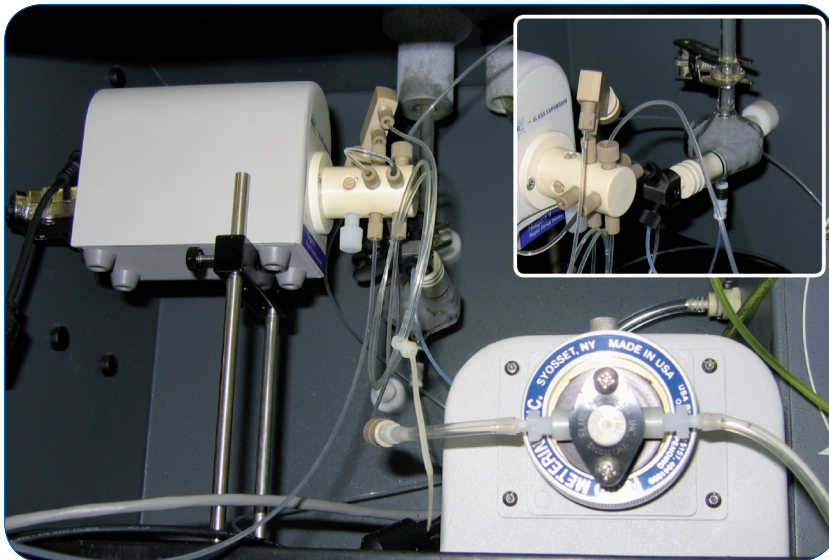
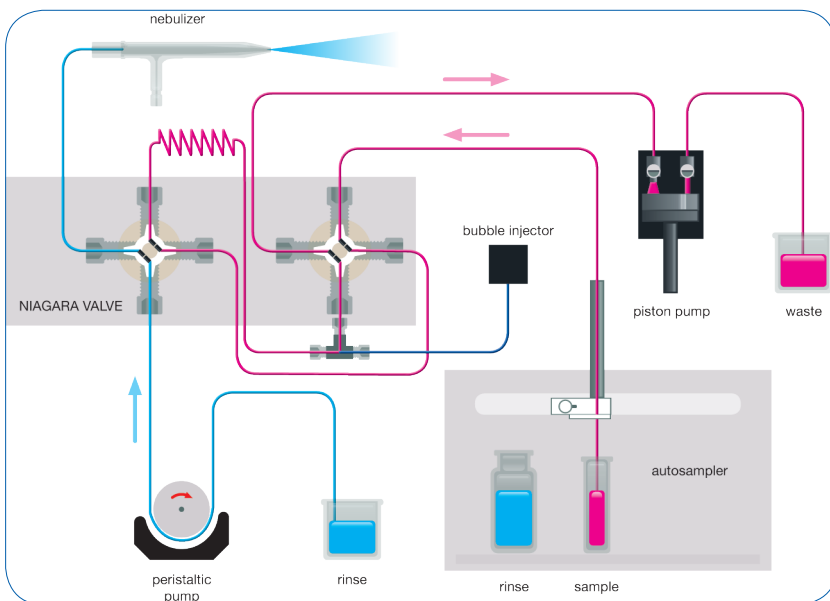

Figure 1: Niagara Plus mounted on the Varian Vista Pro ICP-OES
Figure 2: Niagara Plus flow schematic, Rinse/Refill stage
The design and material of the rotor and stator are of particular importance for this application due to the need for a rugged analytical protocol. Wear metals exist as small particles in a slurry of oil (6) and may cause damage to the valve if the wrong materials are employed. In this case the rotor is composed of PEEK and is quite resistant to scoring, while the less wear-resistant stator is designed for easy removal, cleaning, and installation. Figure 1 shows the Niagara Plus system mounted on the Varian ICP. Note the proximity of the nebulizer to the valve (inset) which is mounted on an adjustable height stand. This proximity contributes to the speed of the system. Figures 2 and 3 demonstrate the operation of the switching valve in its two modes of operation. In the “Rinse/Refill” mode, the sample loop is being loaded via the positive displacement pump while the nebulizer is rinsed with solvent. In the “Home/Inject” mode, the sample in the loop is injected into the nebulizer while the remainder of the system is rinsed with solvent.